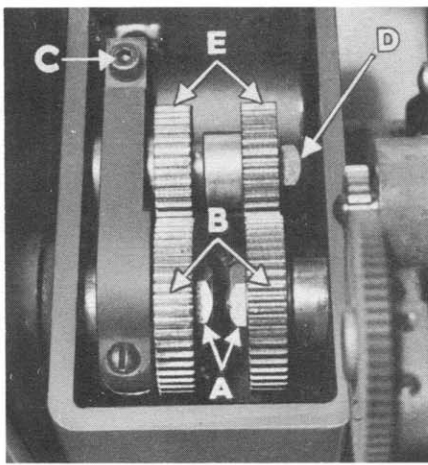

Fig. 2
1. After removing the auxiliary gear case cover remove nuts (A, fig. 2).